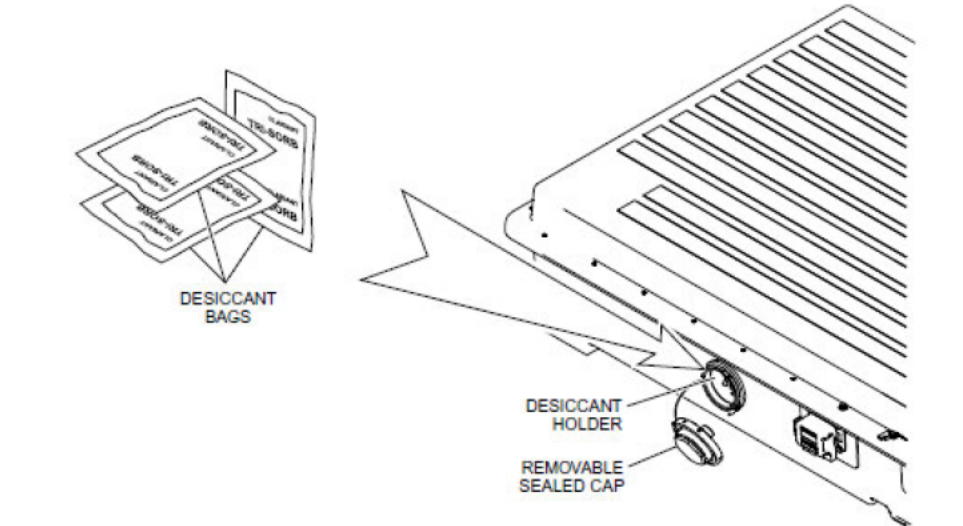

Figure 30: Desiccant Basket Location
13. Add 3 supplied **desiccant bags (PN 6492726)** to the desiccant holder. The desiccant bags must not be left exposed to air longer than necessary. Reference Figure 30 for details.